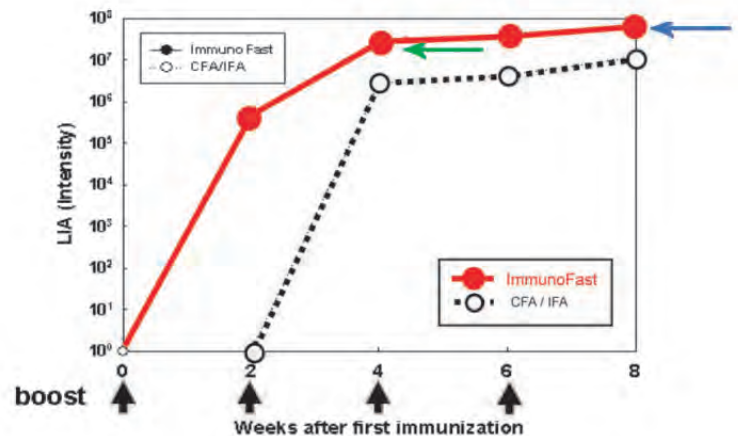
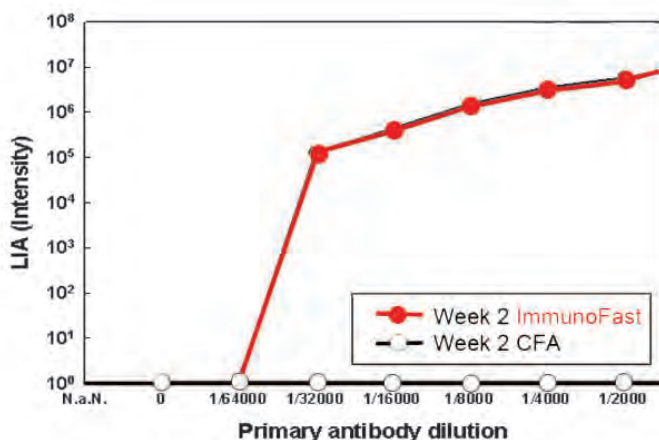

Figure 2: Time required for ImmunoFast™ and CFA/IFA to induce an appreciable immunoreponse.
Figure 1: Comparison of the immunoreponse elicited by ImmunoFast™ and CFA at the 2nd week after the first immunization.
Figure1: Left image, the conventional chemiluminescence image; Right image, the chemiluminescence image using the LuminolPen™ to indicate the pre-stained marker.
Figure 1. Purification efficacy from (A) PhosPRO™ Phosphoprotein Purification Kit, (B) Brand Q and (C) colloidal $\text{Al}(\text{OH})_3$. Protein standard markers containing glycogen phosphorylase b (GP), bovine serum albumin (BSA), ovalbumin (OVA), carbonic anhydrase (CA), trypsin inhibitor (TI) and lactalbumin (LAC) were used for evaluation. Ovalbumin was the only phosphoprotein in the test material. N: flow through; B: eluent; W and W2: washing fraction; 2M NaCl: additional washing step not suggested by manufacturer of Brand Q. The VisPRO™ 5 minute Protein Stain Kit (VisPRO) and Pro-Q Diamond stain (Pro-Q, Invitrogen) were used for developing total proteins or phosphoproteins.
The most attractive character of ImmunoFast™ is its efficiency to elicit a significant immunoreponse in a very short period of time, even for the antigens difficult to elicit an immunoreponse. Within 2 weeks after the first immunization, the ImmunoFast™ (Figure 1, closed circle) elicits a 100,000-fold stronger immunoreponse in animals than CFA (Figure 1, opened circle). Employing ImmunoFast™ can induce a significant immunoreponse within 2 weeks (Figure 2, closed circle), whereas the conventional CFA may take at least 4 weeks to elicit an equivalent immunoreponse (Figure 2, opened circle). Furthermore, as for ImmunoFast™, a plateau of immunoreponse will be reached at the 4th week (Figure 2, green arrow). The ImmunoFast™ efficiently makes the best of your time for research without compromising antibody titer.
The ImmunoFast™ can elicit a much stronger immunoreponse in animals than other adjuvants such as the CFA. After performing the regular immunization procedure in animals (4 boosts within 8 weeks), the immunoreponse induced by ImmunoFast™ (Figure 2, at 8th week, blue arrow) is approximately 10-fold stronger than that induced by CFA.